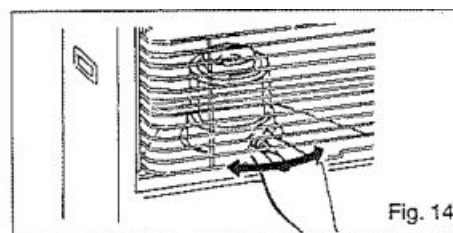

Fig. 14
**(D)** After igniting the wick rotate the burner knob (spring) left and right a few times to ensure that the burner rests properly on the round wick guide. (Fig. 14)